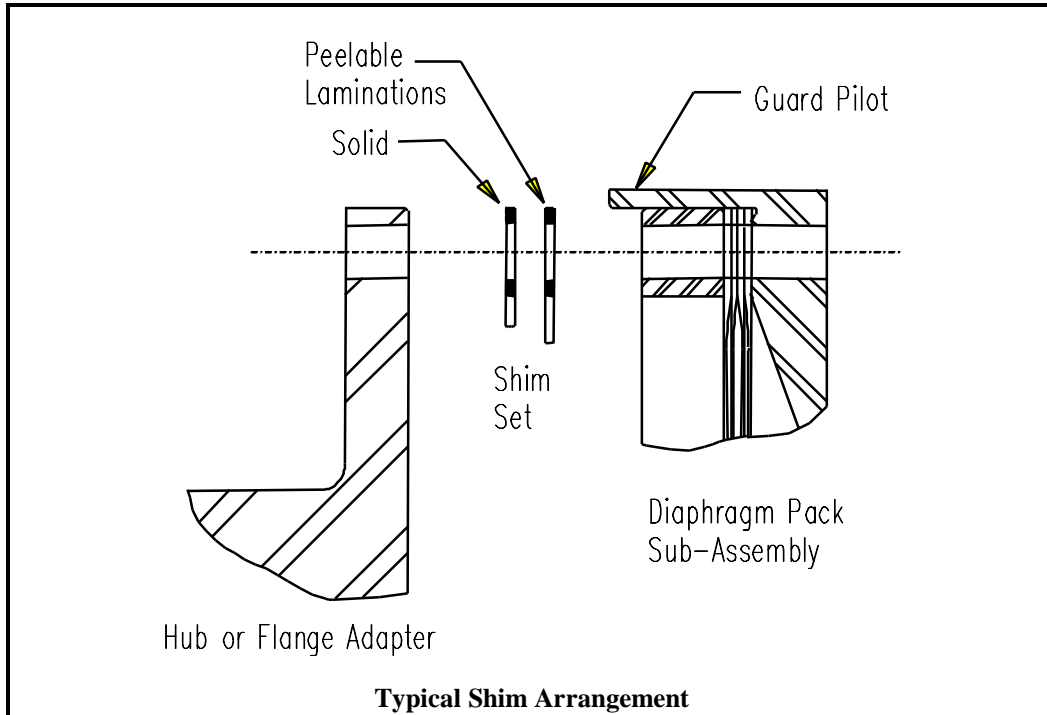
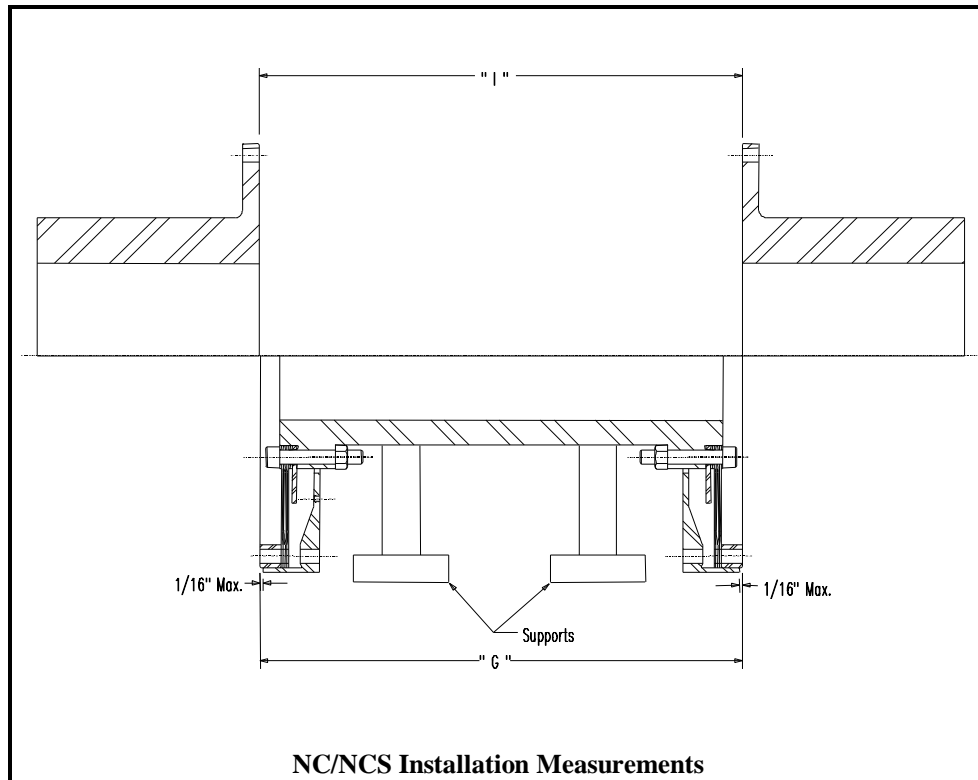

Figure 4-6
Figure 4-7
Shims are provided to adjust the length of the coupling at installation to accommodate variations in flange-to-flange dimensions ("I" dimension as shown in Figure 4-7) within the limits specified on the Ameridrives sales drawing. The coupling spacer is intentionally made short by the thickness of one shim set. This allows for flange-to-flange adjustability equivalent to the thickness of one shim set in either direction. Two shim sets are normally provided (see Figure 4-6). Refer to the Ameridrives Sales Drawing for location and quantity of shims.
- 4.4.1.2 Measure and record , on the worksheet provided in Paragraph 4.4.3, the installation length "I" (distance between mounted flange faces) at four (4) places approximately 90° apart (see Figure 4-7).